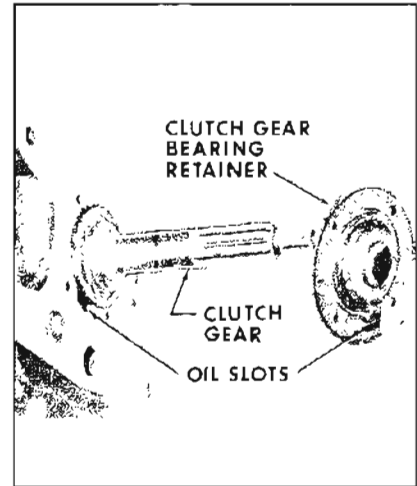

Figure 4-29—Clutch Gear Bearing Retainer Oil Slot
11. Install the clutch gear bearing retainer and gasket. Make sure the oil slot in the retainer lines up with the oil slot in the front face of the case. Do not allow the gasket to protrude beyond the edge of the retainer. See Figure 4-29.